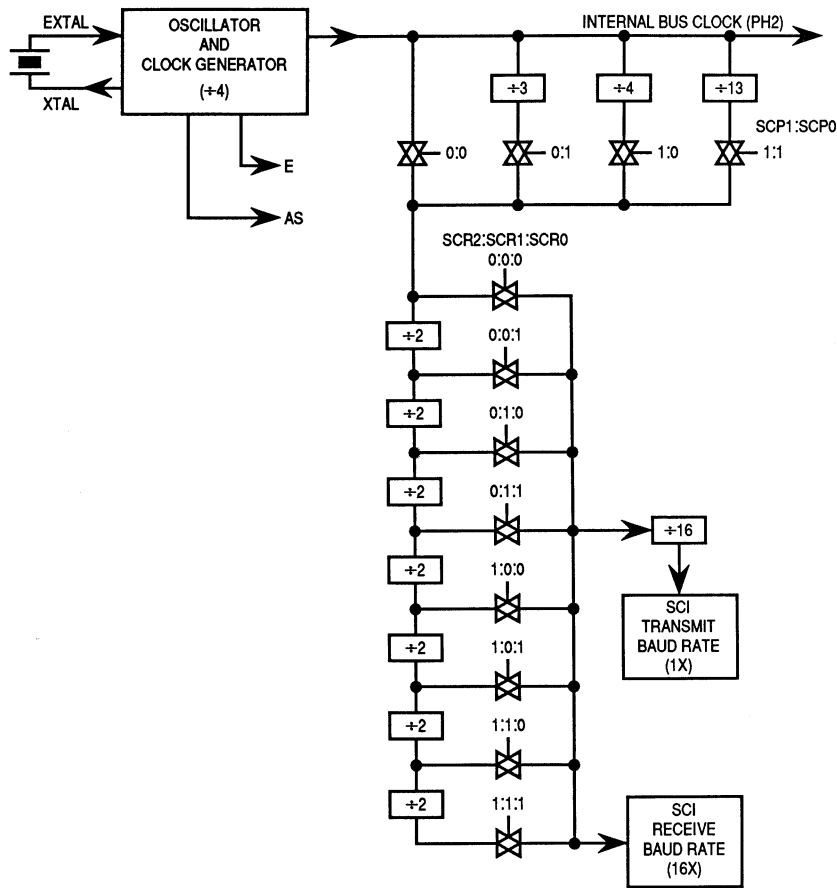

Figure 7-3. SCI Baud Rate Diagram
Figure 7-3 illustrates the SCI baud rate timing chain. The prescale select bits determine the highest baud rate. The rate select bits determine additional divide by two stages to arrive at the receiver timing (RT) clock rate. The baud rate clock is the result of dividing the RT clock by 16.